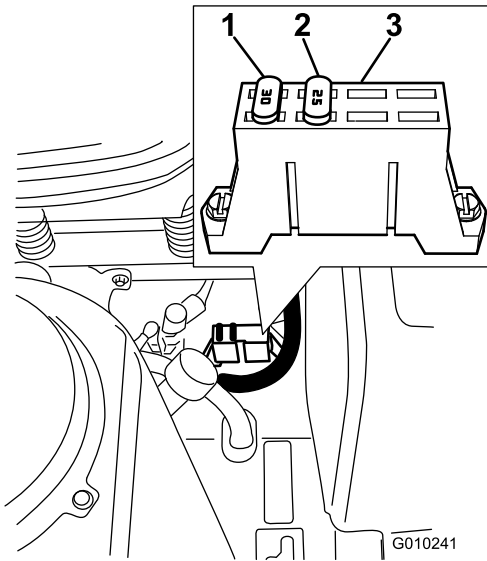

Figure 44
- The fuses are located on right hand console next to the seat (Figure 44).
- Install a new fuse (Figure 44).